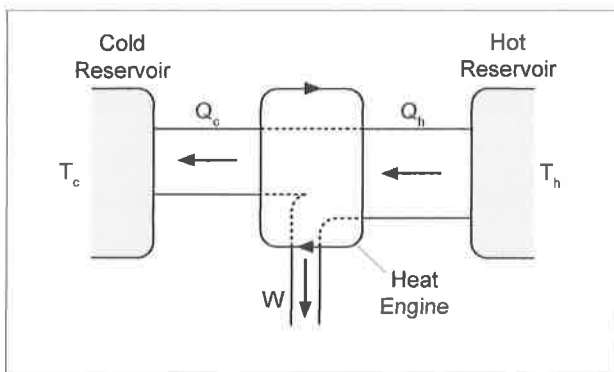

Figure 2: Heat Engine
A heat engine can be represented by a diagram (Figure 2). The law of Conservation of Energy (First Law of Thermodynamics) leads to the conclusion that  $Q_H = W + Q_C$ , the heat input to the engine equals the work done by the heat engine on its surroundings plus the heat exhausted to the cold reservoir.
► **NOTE:** The arrows are reversed compared to the heat in Figure 2. By conservation of energy,